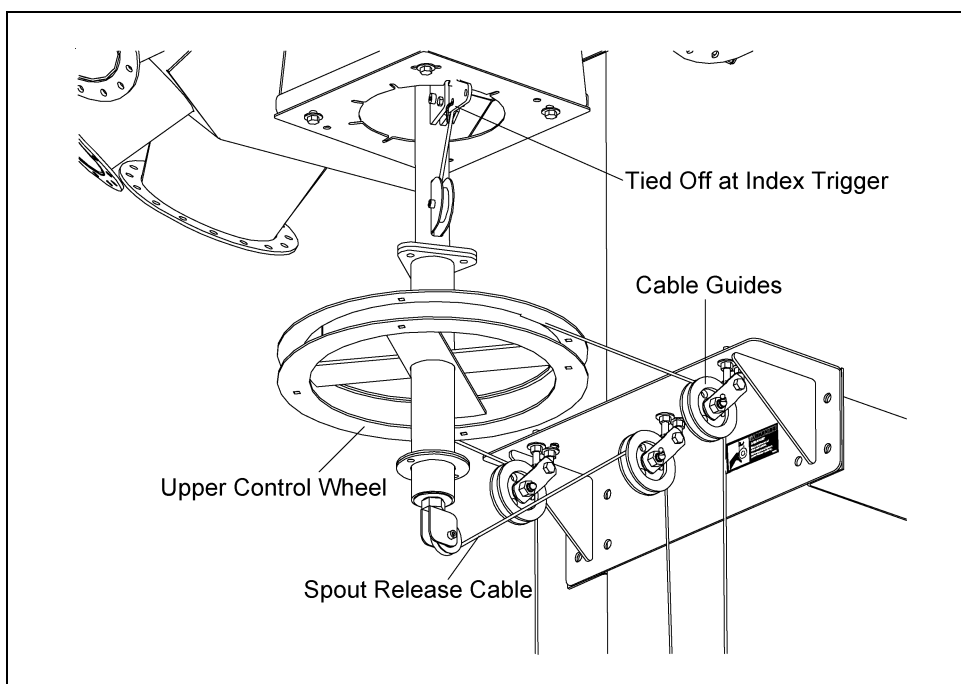
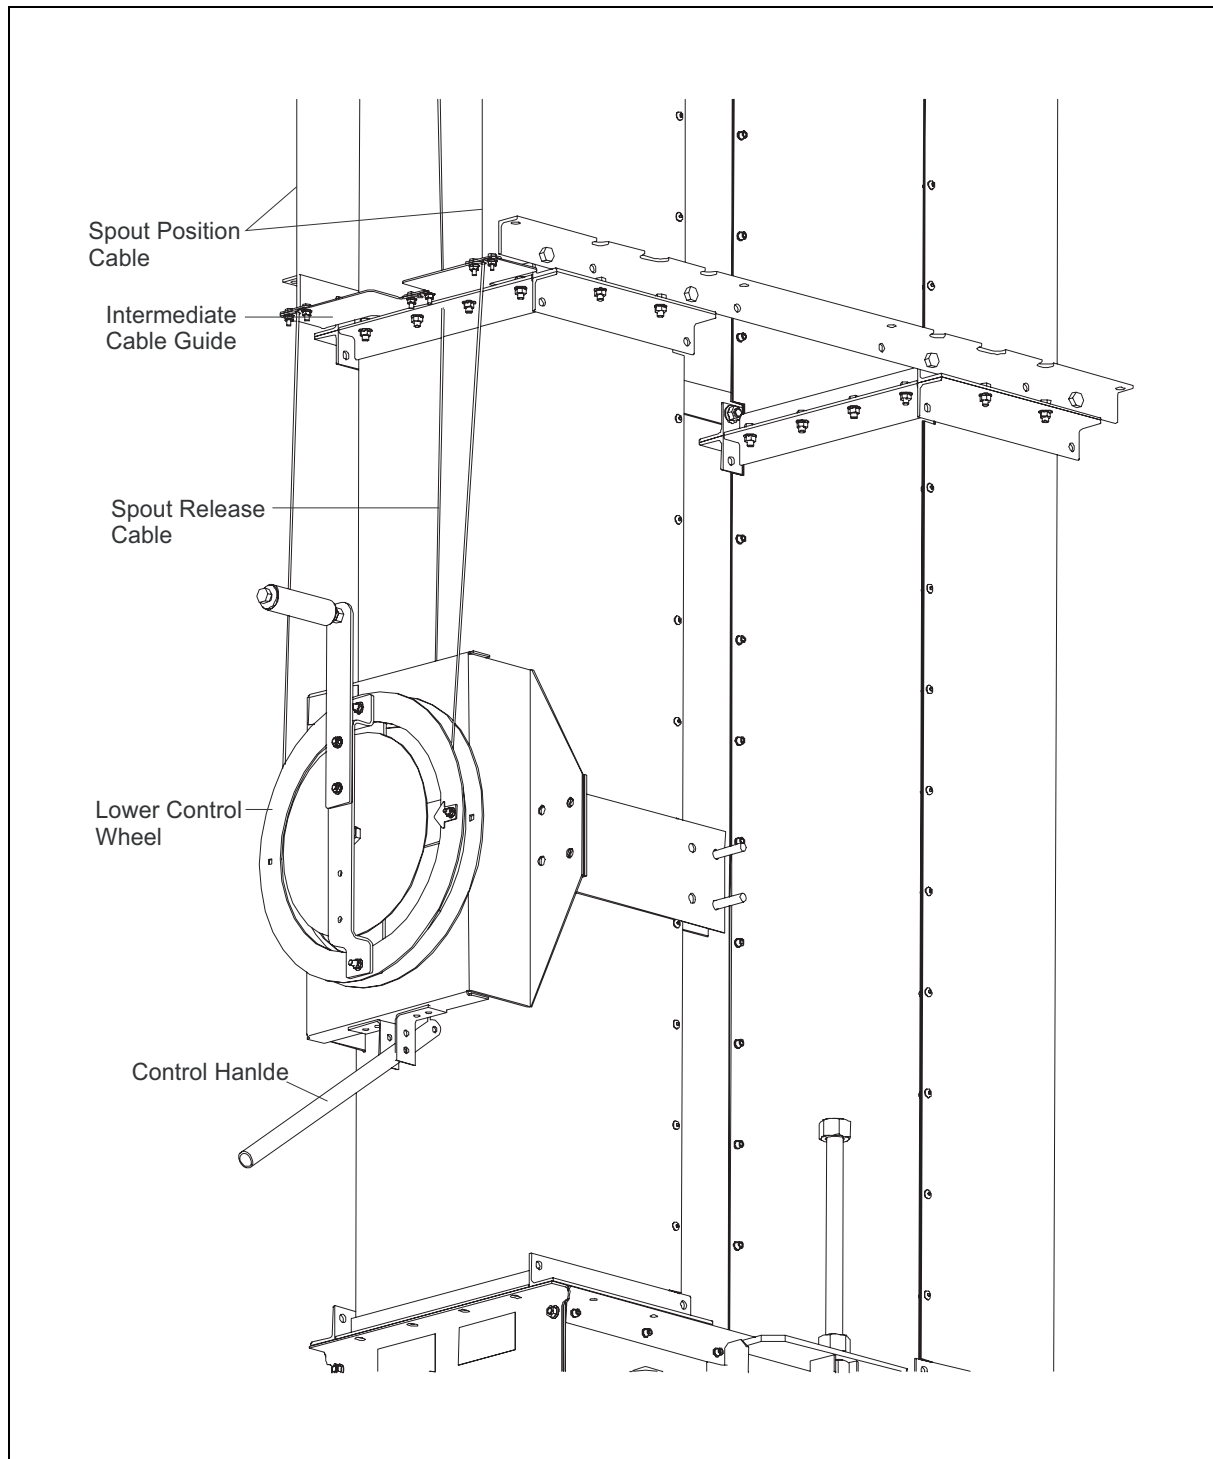
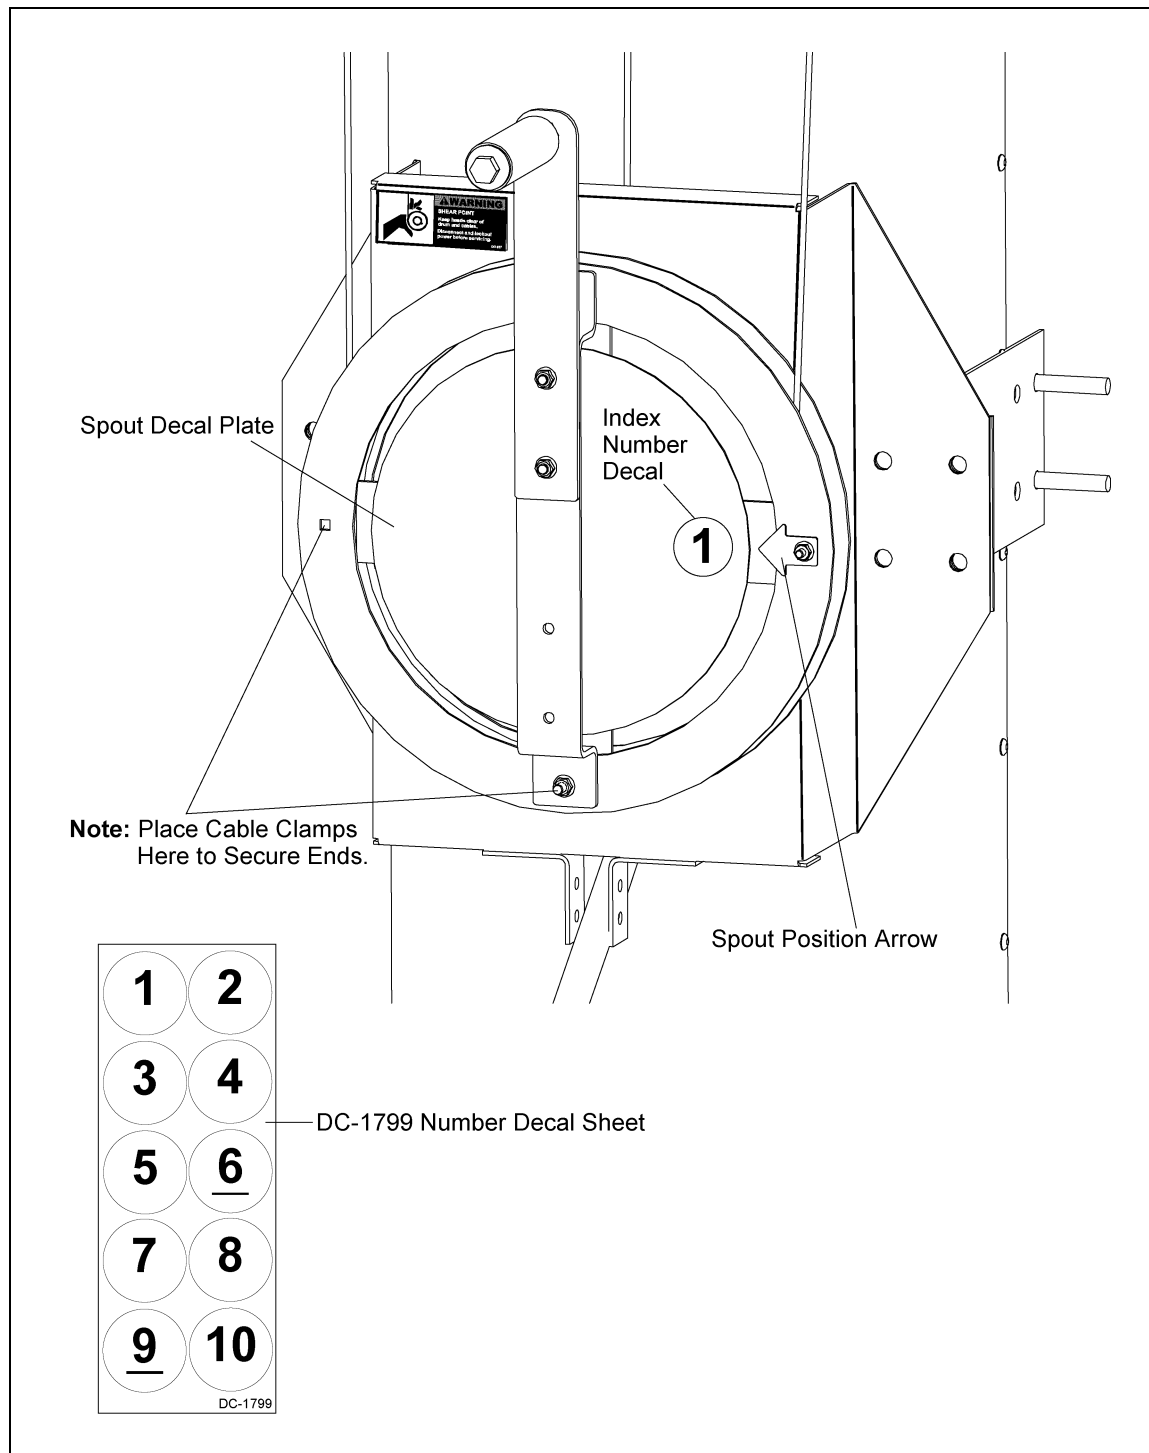

Figure 5L
Figure 5M
Figure 5N
Run both ends of the cable through the cable guides (See Figure 5L), continue down through the intermediate cable guides along trunking (See Figure 5M on Page 20), down to the lower cable wheel. Wrap each end of the cable 1 full wrap and then cable clamp both ends (See Figure 5N on Page 21).
This cable is used to release the index trigger so that the spout can be turned. This cable should be able to reach from the control handle at the bottom side of the lower control wheel (See Figure 5M on Page 20), up over the center pulley of the cable guide assembly, under the connector pulley assembly, and tie off at the index trigger (See Figure 5L). Allow some extra cable to be able to tie off at both ends.
2. Using the Index Number Decal (Decal part number DC-1799), peel off one of the numbers (numbered 1 through 10) and place on the Spout Decal Plate in front of the Spout Position Arrow (See Figure 5N on Page 21).